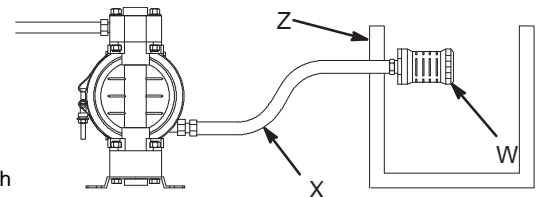

Fig. 2
- The Typical Installations in FIG. 2 are only guides for selecting and installing system components. Contact your Graco distributor for assistance in planning a system to suit your needs.
- FIG. 2 shows some installation examples. On all installations, mount the pump using screws and nuts.
A bleed-type master air valve (B) is required in your system to relieve air trapped between this valve and the pump. See FIG. 2. Trapped air can cause the pump to cycle unexpectedly, which could result in serious injury, including splashing in the eyes or on the skin, injury from moving parts, or contamination from hazardous fluids.
1. Install the air line accessories as shown in FIG. 2. Mount these accessories on the wall or on a bracket. Be sure the air line supplying the accessories is electrically conductive.
- a. The fluid pressure can be controlled in either of two ways. To control it on the air side, install an air regulator (G). To control it on the fluid side, install a fluid regulator (J) near the pump fluid outlet (see FIG. 2).
- b. Locate one bleed-type master air valve (B) close to the pump and use it to relieve trapped air. Read the **WARNING** above. Locate the other master air valve (E) upstream from all air line accessories and use it to isolate them during cleaning and repair.
- c. The air line filter (F) removes harmful dirt and moisture from the compressed air supply.
2. Install an electrically conductive, flexible air hose (C) between the accessories and the 1/4 npt(f) pump air inlet. Use a minimum 1/4 in. (6.3 mm) ID air hose. Screw an air line quick disconnect coupler (D) onto the end of the air hose (C), and screw the mating fitting into the pump air inlet snugly. Do not connect the coupler (D) to the fitting yet.
A fluid drain valve (H) is required in your system to relieve pressure in the hose if it is plugged. See FIG. 2. The drain valve reduces the risk of serious injury, including splashing in the eyes or on the skin, or contamination from hazardous fluids when relieving pressure. Install the valve close to the pump fluid outlet.
1. Use electrically conductive fluid hoses (K). The pump fluid outlet is 3/4 in. Screw the fluid fitting into the pump outlet snugly. **Do not overtighten.**
2. Install a fluid regulator (J) at the pump fluid outlet to control fluid pressure, if desired (see FIG. 2). See **Air Line**, step 1a, page 5, for another method of controlling pressure.
3. Install a fluid drain valve (H) near the fluid outlet. Read the **WARNING** above.
Diaphragm failure will cause the fluid being pumped to exhaust with the air. Place an appropriate container at the end of the air exhaust line to catch the fluid. See FIG. 2.
See **Venting Exhaust Air** in FIG. 2. Exhaust to a remote location as follows:
1. Remove the muffler (W) from the pump air exhaust port.
2. Install an electrically conductive air exhaust hose (X) and connect the muffler to the other end of the hose. The minimum size for the air exhaust hose is 3/8 in. (10 mm) ID. If a hose longer than 15 ft (4.57 m) is required, use a larger diameter hose. Avoid sharp bends or kinks in the hose.
3. Place a container (Z) at the end of the air exhaust line to catch fluid in case a diaphragm ruptures. See FIG. 2.
1. FIG. 2 and Parts Drawings. Follow preceding steps 1 through 8 of **Starting and Adjusting Pump**, page 10.
2. Open air regulator (G).